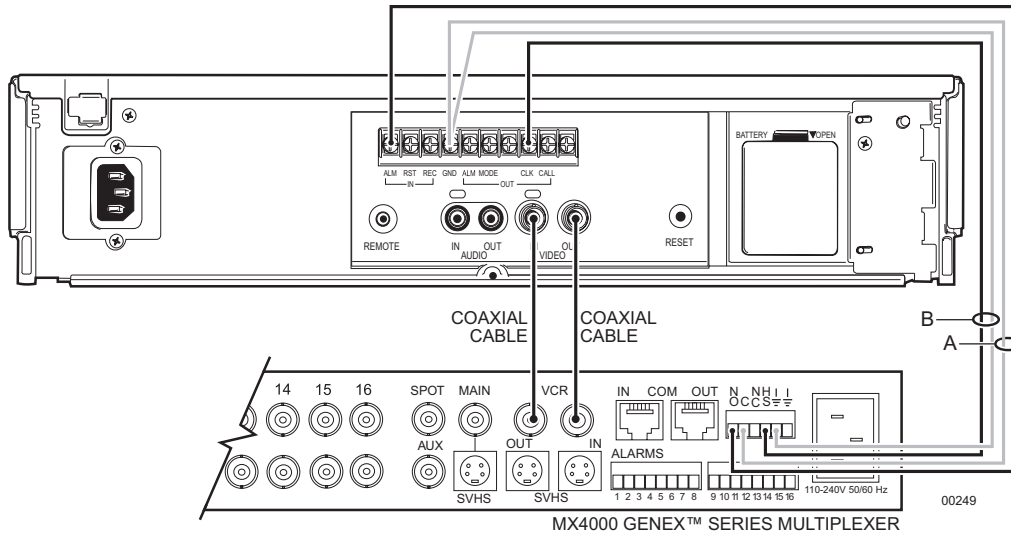

Figure 2. Connecting VCR to Multiplexer
NOTE: Cameras and monitors are connected to the multiplexer. Figure 2 shows the connection between the VCR and an MX4000 Series Genex Multiplexer. Refer to the multiplexer manual for additional component connections.
Figure 2 shows how to connect the VCR to an MX4000 Series Genex® Multiplexer.
- **For Automatic Speed Tracking** (“B” lines in Figure 2)
1. Connect the CLK output to the multiplexer’s head switching (HS) input to synchronize camera switching.
- **For Alarm Recording** (“A” lines in Figure 2)